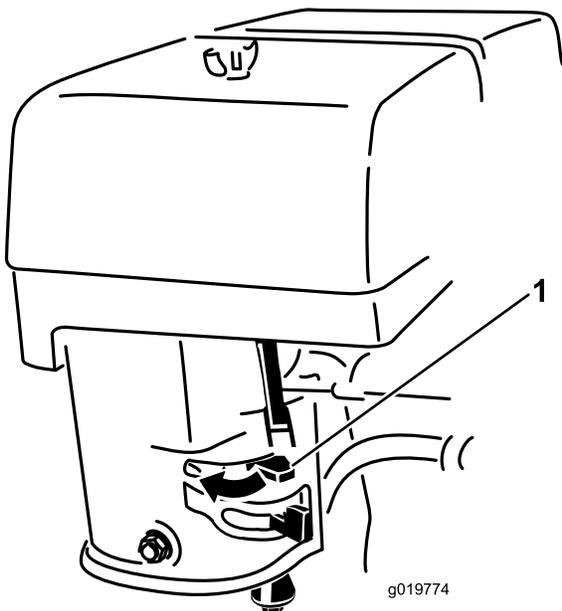

Figure 14
3. Move the choke lever to the left if you are starting a cold engine (Figure 14).